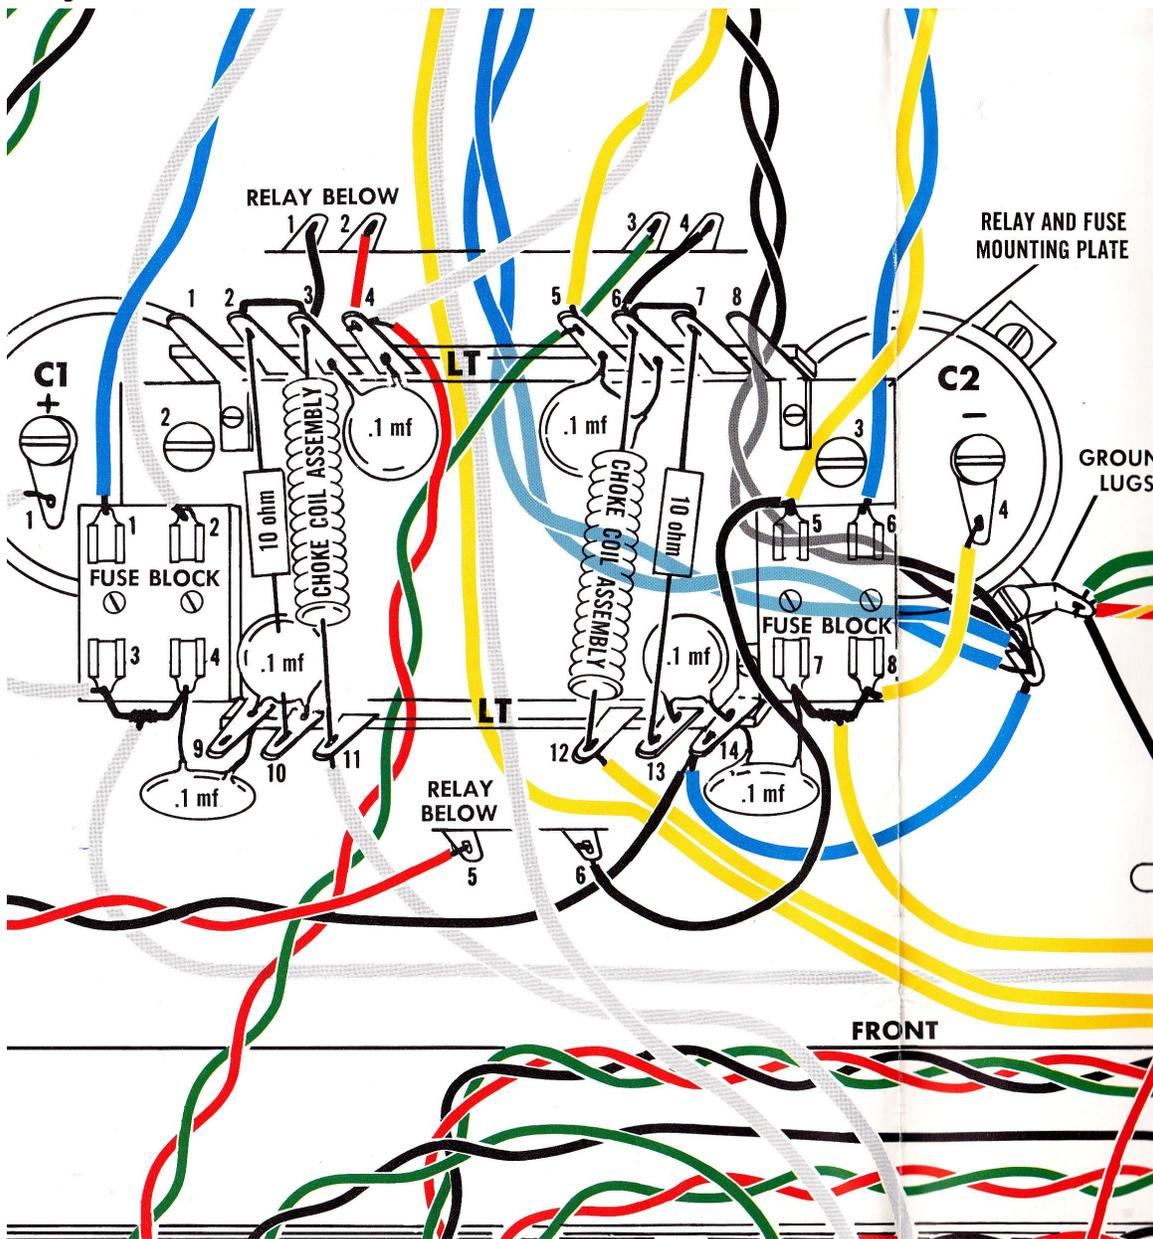
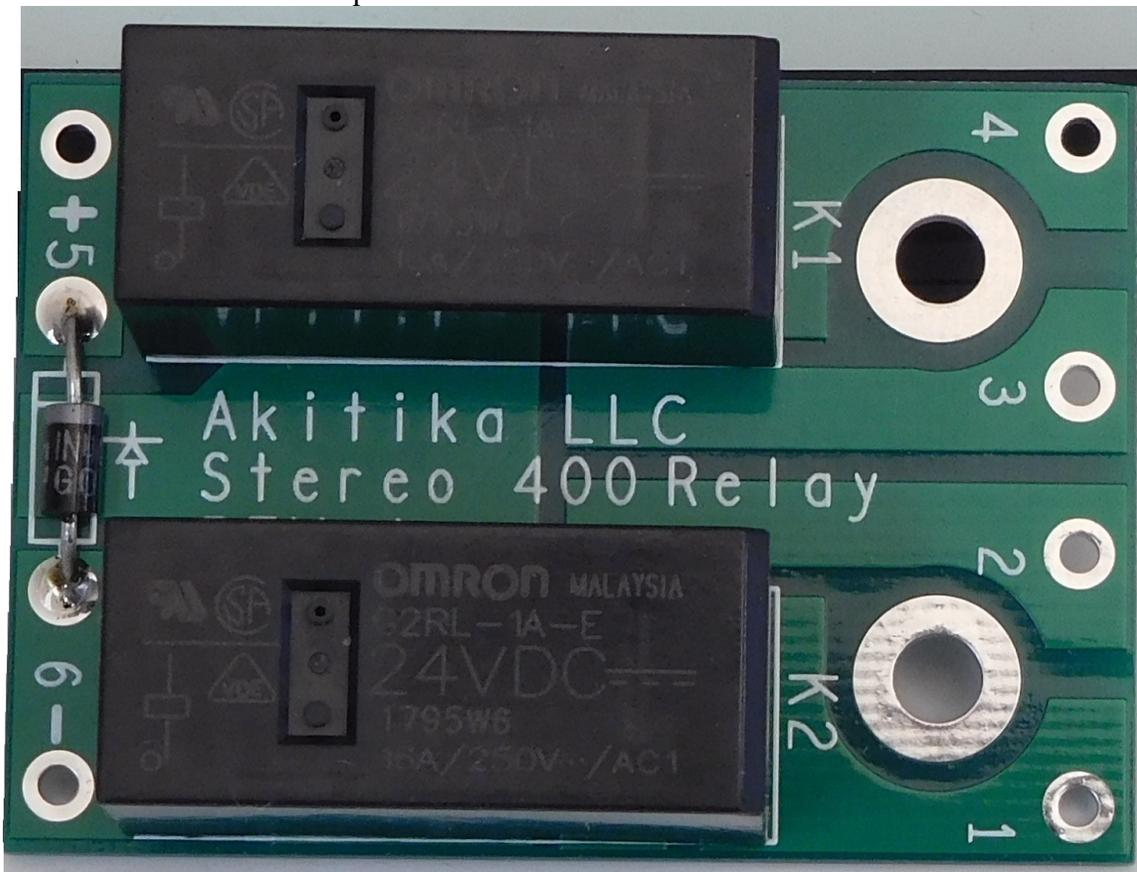

Figure 1-Original Stereo 400 Wiring Diagram Excerpt
Figure 2-Assembled relay board
4. Make masking tape tags numbered 1 thru 6 and place them over the wires that attach to relay terminals 1-6 as shown in Figure 1.
6. The two relay retaining screws are hidden under the two 0.1  $\mu\text{F}$  capacitors shown in Figure 1. Carefully lift them up.
1. Transfer the wires from the old relay board to the new relay board. Observe the numbers carefully in Figure 1 and Figure 2. Match the numbers on the masking tape labels to the numbers shown on the silk-screen in Figure 2.
*You will get fooled if you refer to Figure 1 since*